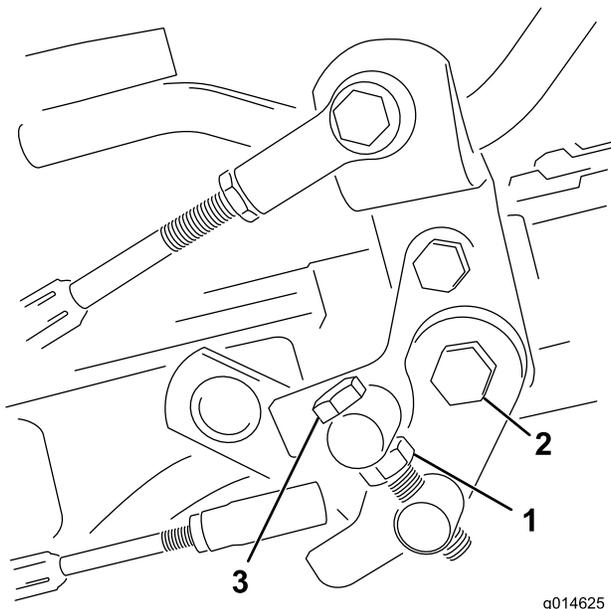

Figure 55
1. Loosen the jam nut on the trunnion bolt (Figure 55).
4. Tighten the jam nut on the trunnion bolt and the nut on the pedal pivot to lock the adjustment (Figure 55). Check the adjustment and adjust as required.